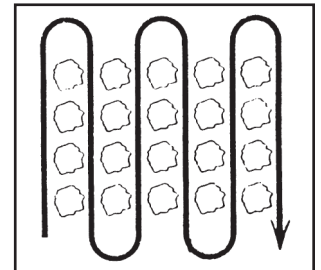

FIGURE 8
- A minimum of two (2) inches of soil penetration is required for cultivating.
- Run the tiller engine at full throttle except when cultivating small plants. A slower engine speed is necessary to prevent burying small plants. See Figure 8.